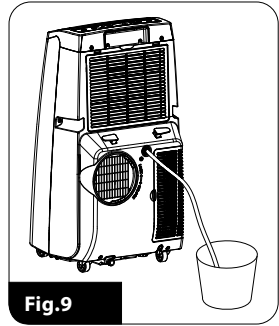

Fig.9
- unscrew the cap and remove the plug (6)
- connect the other end of the drain hose to the drainage system or a dish (Fig. 9)